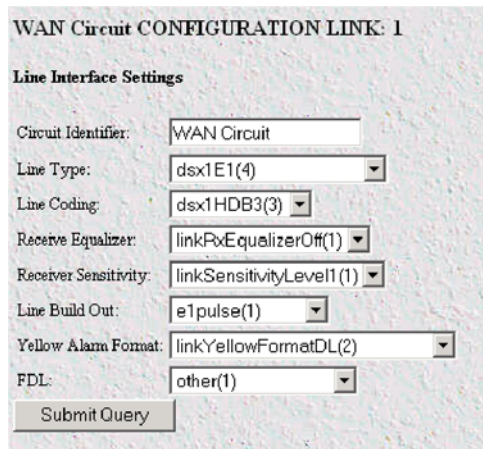

Figure 37. WAN Circuit Configuration page, Line Interface Settings
3. Click the *Configuration...* hyperlink then click the *Modify Configuration...* hyperlink to open the WAN Circuit CONFIGURATION LINK window (see figure 37) and view the *Line Interface Settings*.